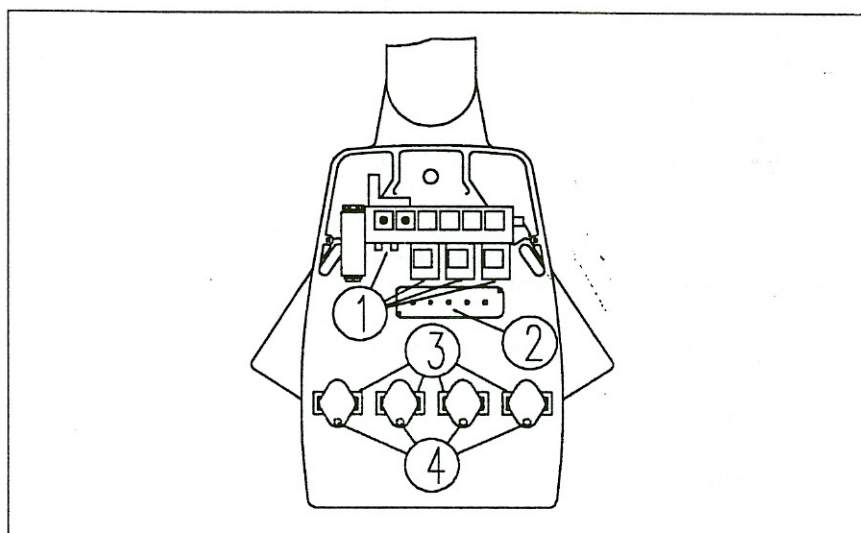

Figure 6. Bridge without cover.
See Figure 6.
See Figure 6 (2).